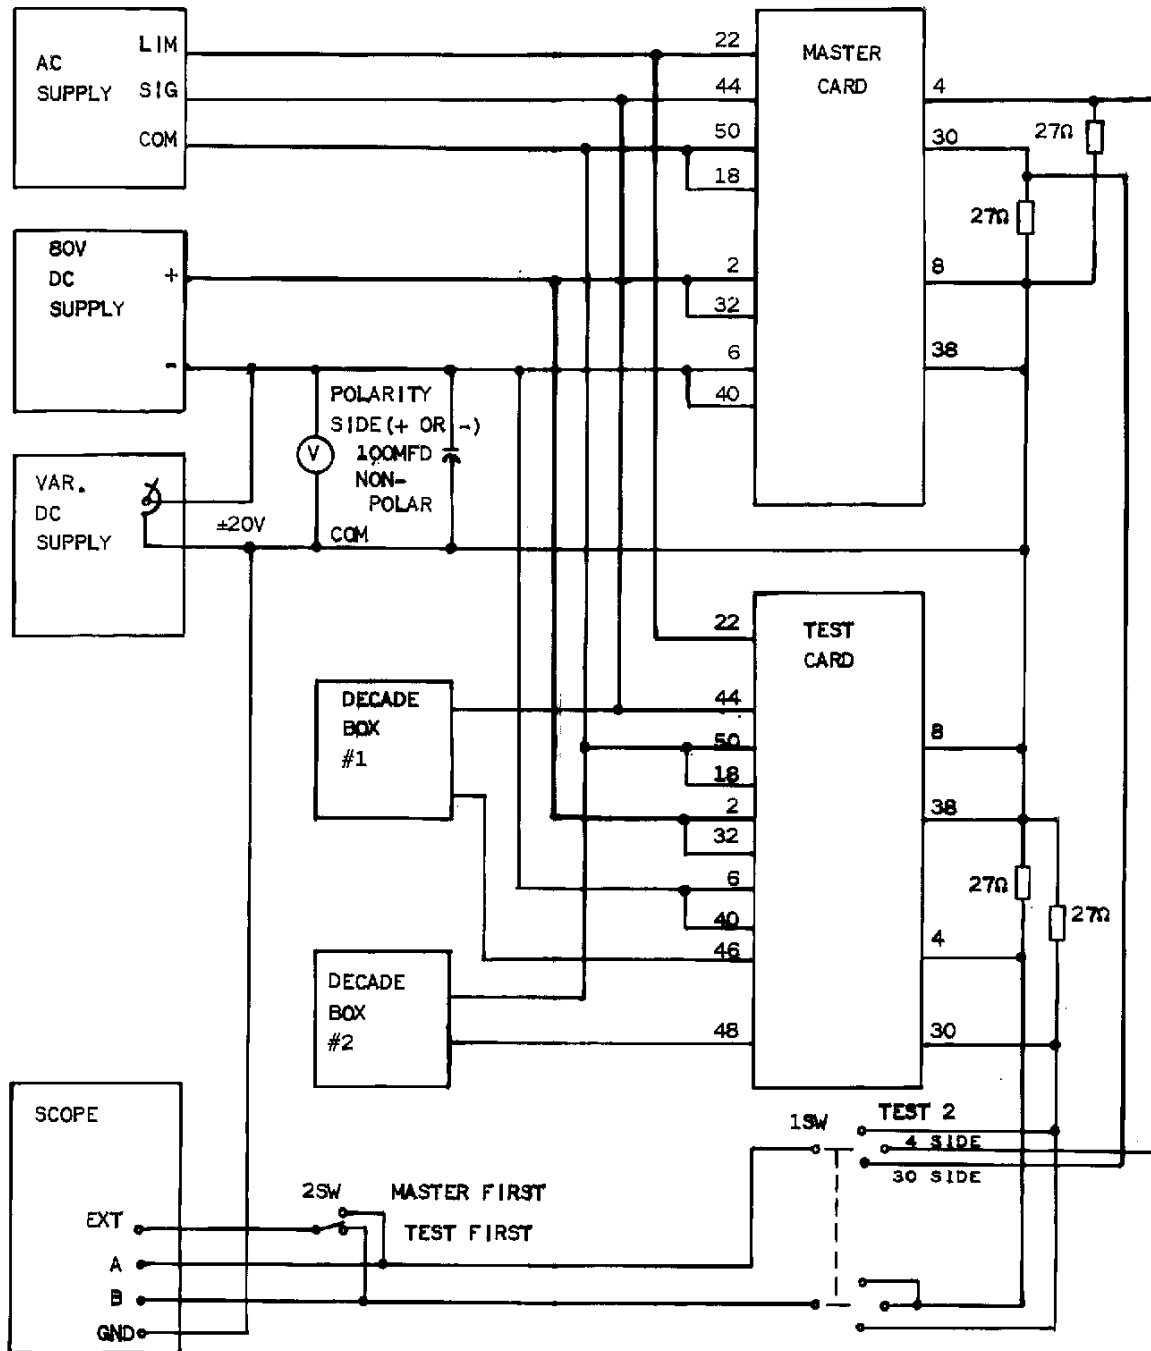

FIGURE 2
- 1 - MISC RESISTORS, ETC. PER FIGURE 2.
WITH TWO CARDS CONNECTED PER FIGURE 2, ADJUST R1 AND R2 SO THAT SIG TO COM AND LIM TO COM ARE SAME VOLTAGE WITHIN 2% AND SIG TO COM LAGS BY 30 ELECTRICAL DEGREES ± 2 DEGREES.